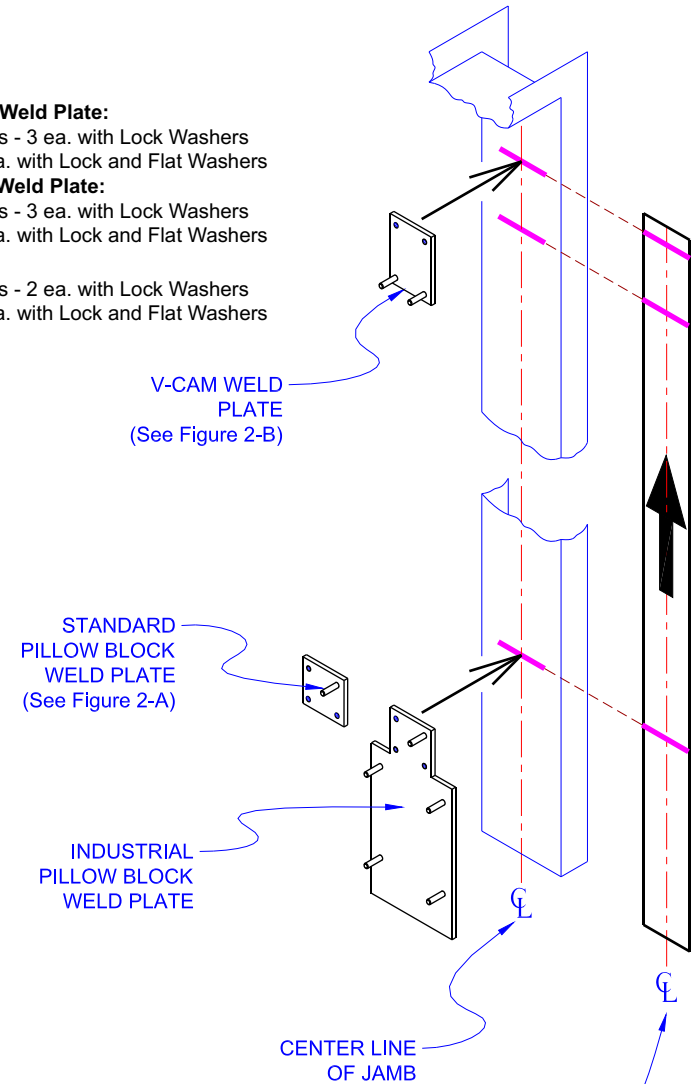

FIGURE 1-A
4. Locate weld plates on jamb as shown in Figure 1-A, 2-A, & 2-B (studs and threaded holes must be oriented as shown).